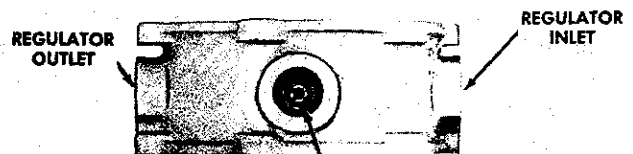

FIGURE 11
10. Carefully examine the orifices of the primary and secondary valve seats, Figure 11. These seats are located in the valve channels of the regulator body. If either seat is scratched or imperfect in any way, it must be replaced, see next step.